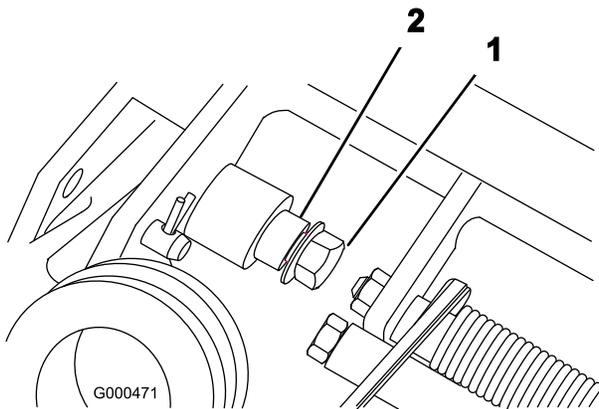

Figure 7
1. Remove the flange lock nut from the bolt and pivot pin on each side of the mower (Figure 7).